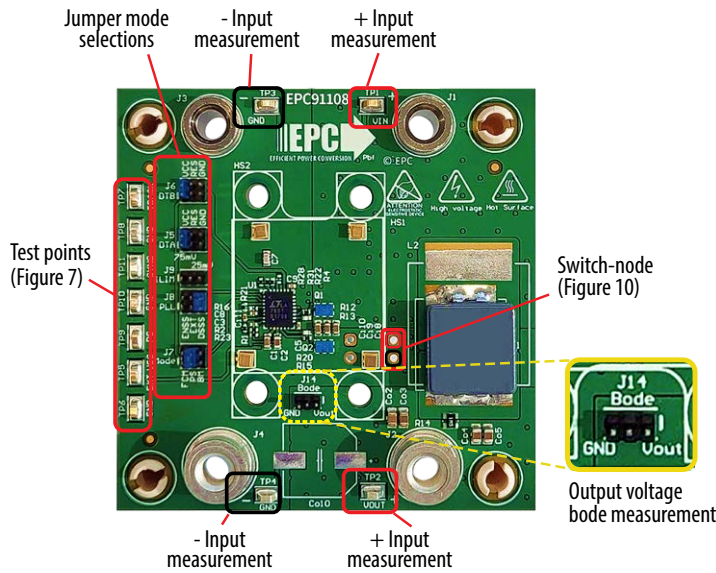

Figure 8: EPC91108 test point pad and hookup locations and designations.
Figure 8 and 9 show the various measurement connections of the EPC91108 evaluation board.
4. With power off, connect the various measurement probes as shown in figure 8 and 9.